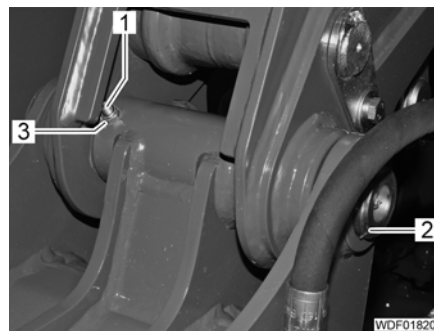

Fig. 565 Securing for pin
- Unscrew nut (Fig. 565,3) and remove bolt (Fig. 565,1).
- Drive out pin (Fig. 565,2) to the left.
- Drive in pin (Fig. 565,2) so that the markings on the pin and on the tool holder are exactly aligned.
- Insert bolt (Fig. 565,1) through the pin and secure with new nut (Fig. 565,3).